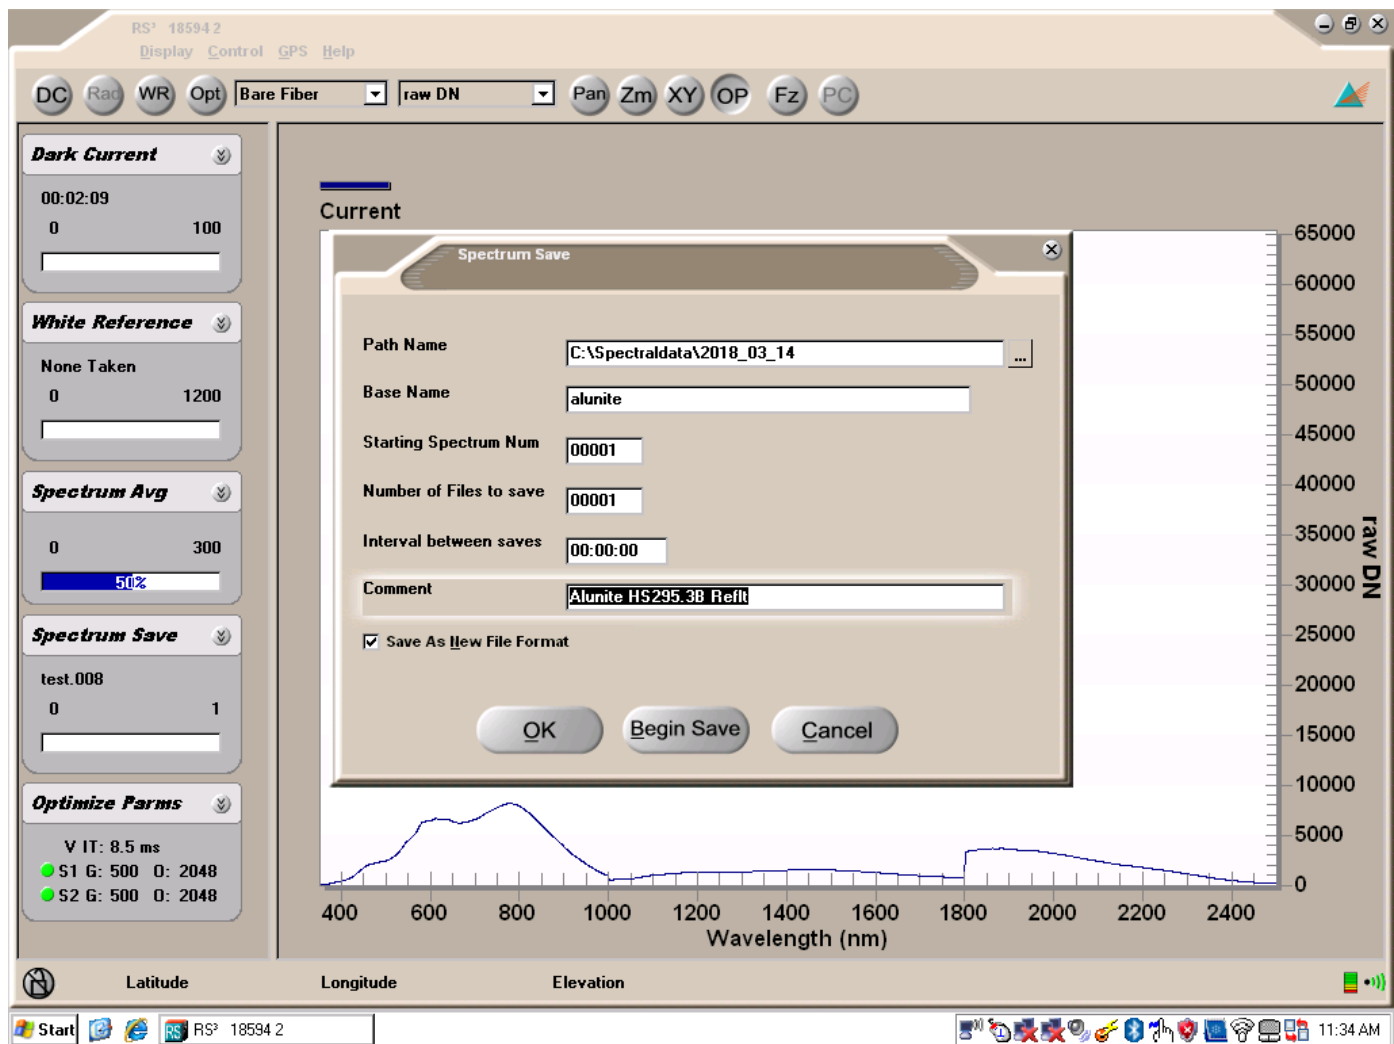

Figure 2. Spectrometer “Spectrum Save” menu in the RS3 software.
7.3.13 Select “Control” on the top menu, then select “Spectrum Save” from the drop-down menu (Fig. 2).